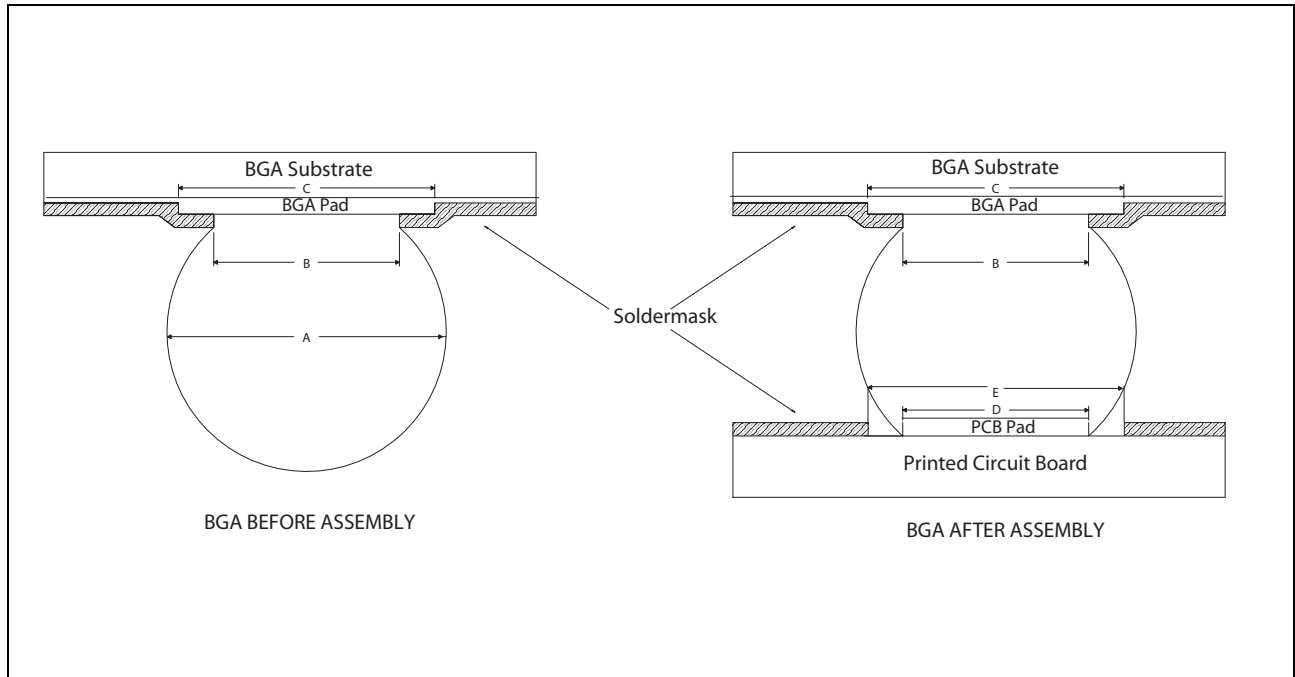

Figure 6: BGA Solder Joint Geometry
Figure 6 shows the BGA solder joint geometry prior to surface mount assembly and after surface mount assembly. The recommendations for PCB pad size given in Table 3 are based on the BGA ball size (in accordance with IPC-SM-782).
- For Non-Soldermask Defined pads, the soldermask opening Figure 6: “BGA Solder Joint Geometry,” on page 5 should account for any manufacturing tolerances such that the soldermask will not overlap the copper pad.